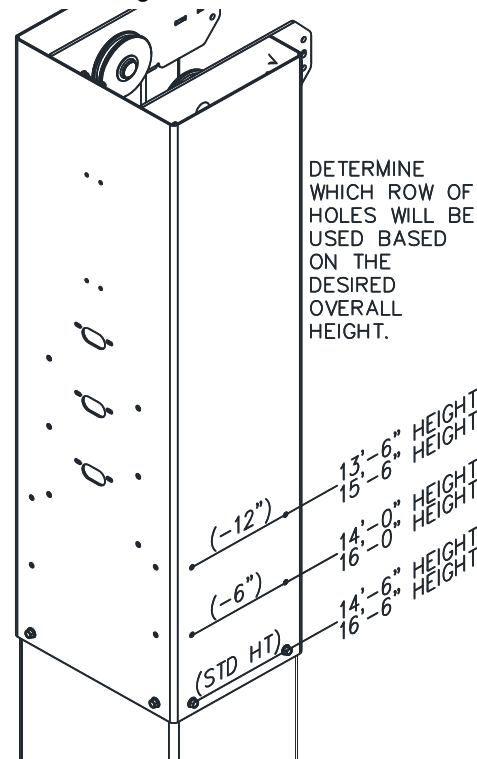

Fig. 3 – Column Extension Assembly
- 10) Assemble column extension to column by lining up the correct set of holes and using the 1/2"-13 x 1" lg. hex flange head bolts, Fig. 3. **Note: the column extensions are adjustable by 6" and 12".**